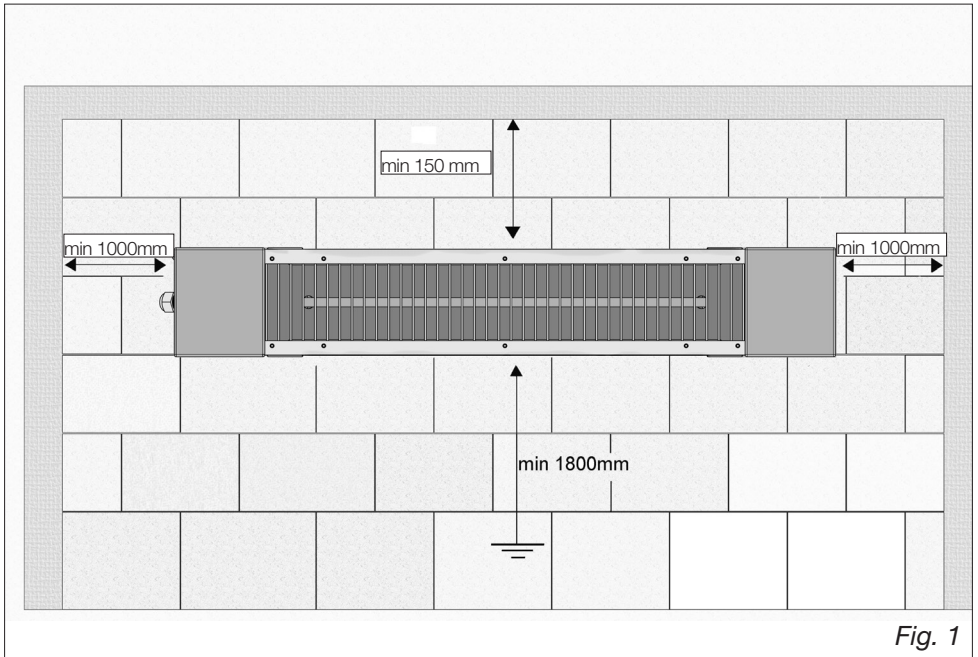

Fig. 1
- A minimum air gap of 15cm should always be allowed between the top of the heater and a ceiling or roof. The appliance should be 100cm away from any walls (**Fig.1**).
- This unit should be mounted at a minimum of 180cm above ground level (**Fig.1**). If installed in a toilet, the height should be 225cm in zone 1 and zone 2, according with the rules of each Country.